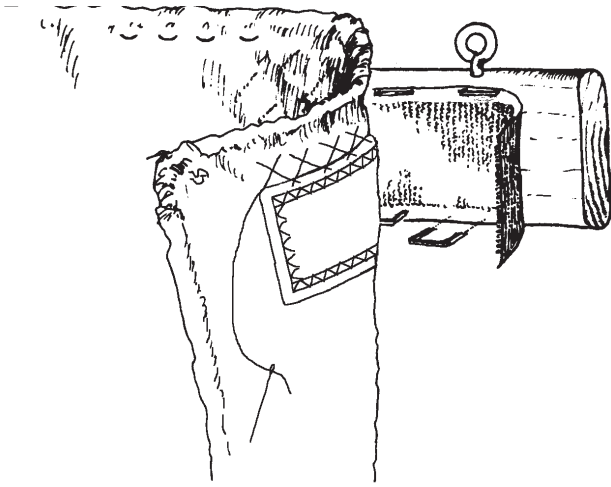

Figure 2. Mounting the textile.
**Step Three:** With the textile face down on a clean, flat surface, pin the cotton sleeve or tape about 1–1.5 cm below the top edge of the textile (see Figure 2 for placement).